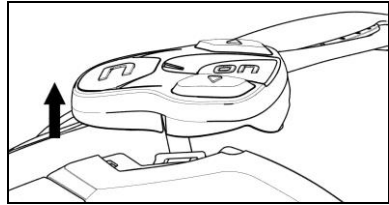

Fig. 29
- Rotate the keypad in a counterclockwise direction (Fig. 29).